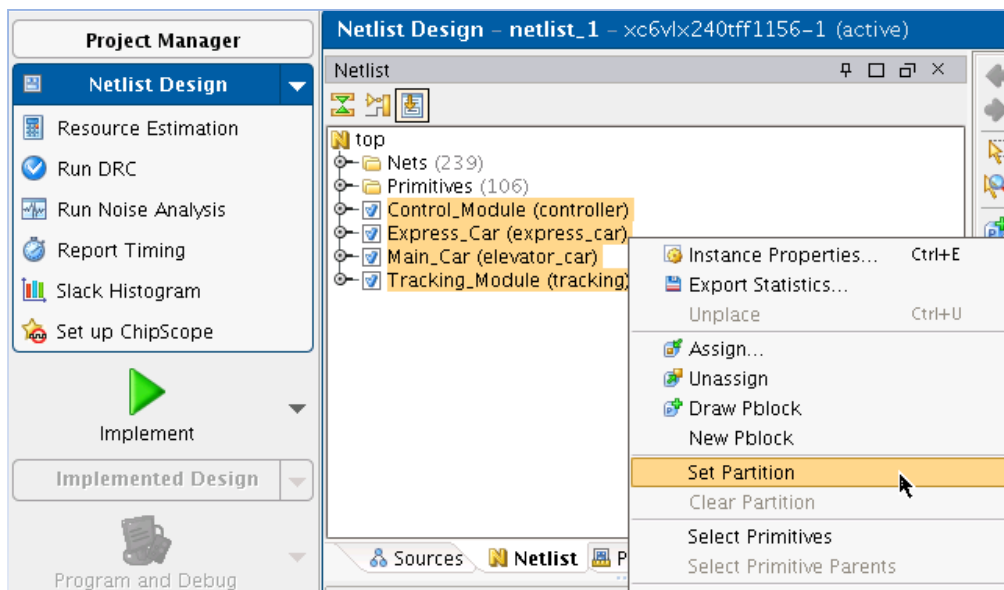

Figure 3: Setting Partitions in PlanAhead
4. From the right-click menu, select **Set Partition**, as shown in Figure 3.